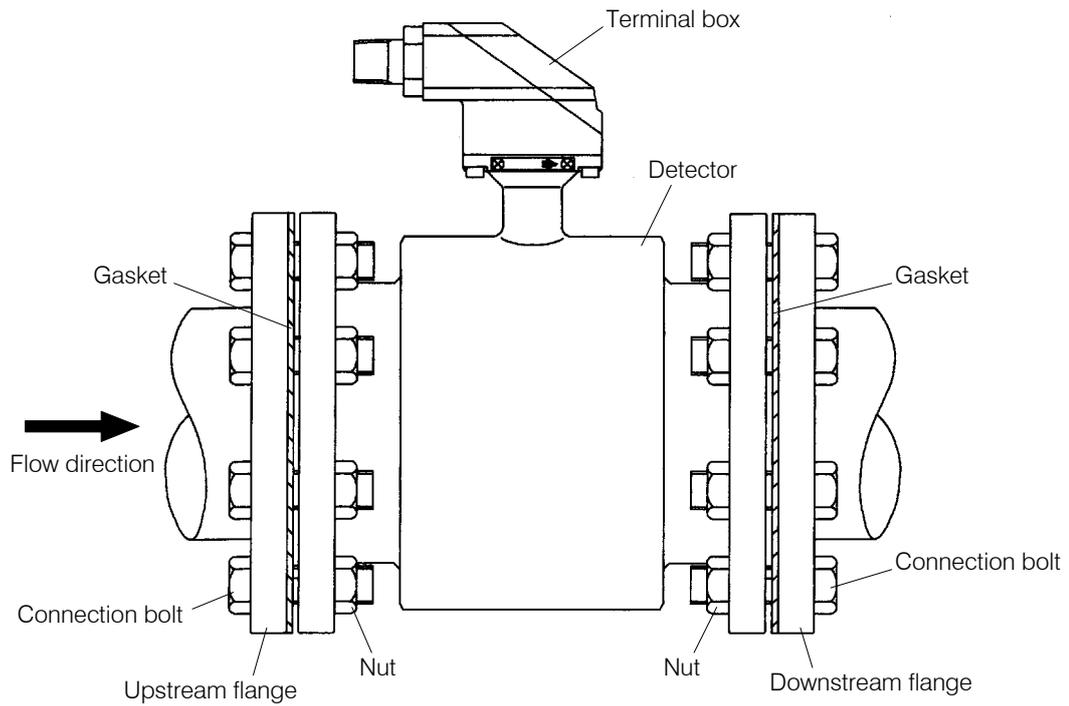

Figure 4.6 Piping Connection Method
- ① Install a gasket between the detector main body and each of the mating pipes as shown in Figure 4.6 and the detector is sandwiched between the upstream and the downstream pipes.